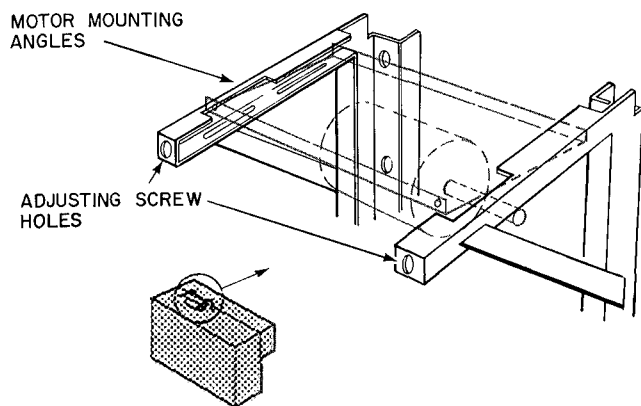

Fig. 4 — 028 and 034 Horizontal Fan Motor Mounting Angles
1. Fasten motor mounting angle bracket to fan section. Use Fig. 2 or 3 for position reference and Fig. 4 for assembly guidance. Be sure that lips of angle brackets are around fan section frame and that slots for motor mounting plate face each other.
3. Lift motor-plate assembly and slide into motor mounting angles as shown in Fig. 4. Plate fits in angle slots. On vertical mounts, the motor mounting assembly can be lowered to bottom of motor support channels.